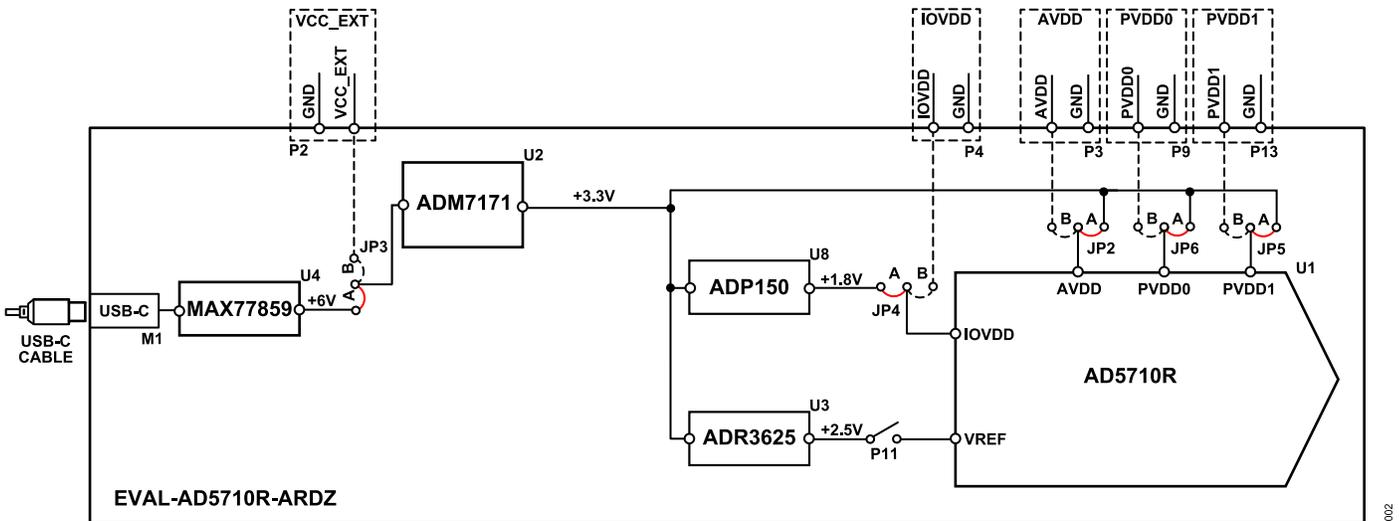

Figure 2. Powering the EVAL-AD5710R-ARDZ Evaluation Board
1. Check that all jumpers are in default Position A, except P10 and P11, which are not inserted as shown in Figure 2 and Table 3.
1. Check the default jumper connections. See Figure 2.
The EVAL-AD5710R-ARDZ board includes an ADR3625 (2.5V, 3ppm/°C) voltage reference, designated as U3. By default, U3 is not connected. To use U3 as the reference, first disable the internal reference of the AD5710R, then insert jumper P11. If the internal reference of the AD5710R is used, remove jumper P11 (see Figure 2).